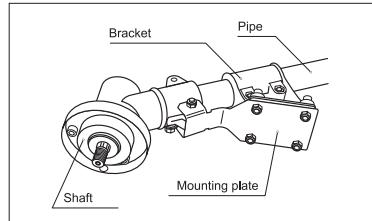

fig. 3
3. Install the protective cover on the bar, getting it between the bracket and the mounting plate, and fix it with four screws (fig. 3).